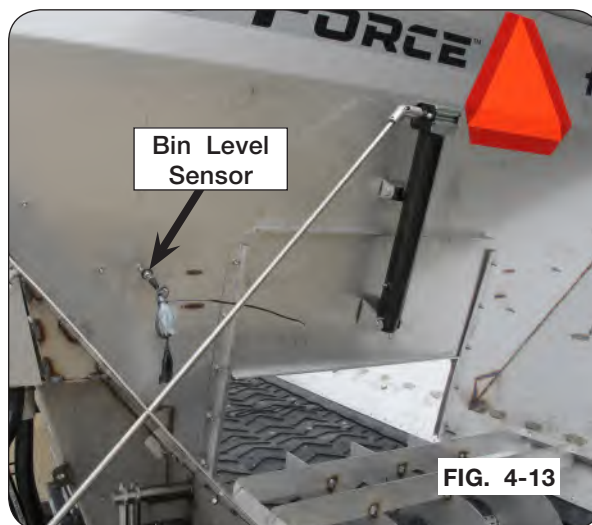

FIG. 4-13
9. Connect speed sensor cable to the speed sensor, and attach other end of cable to the wiring harness. (FIG. 4-13)